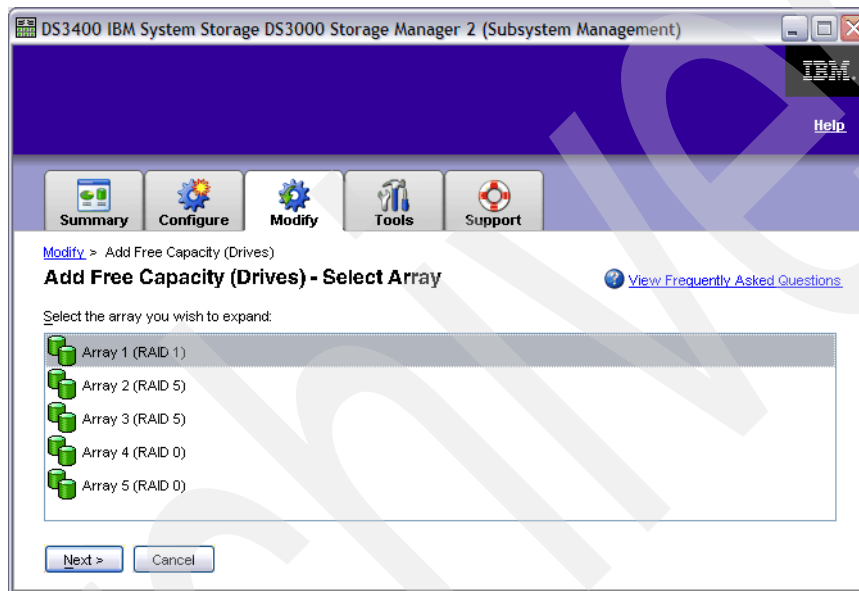

Figure 11-21 Add Free Capacity (Drives) - Select Array
2. If there is free capacity available, the Select Array view will appear (Figure 11-21). Select the array to expand and click **Next**.